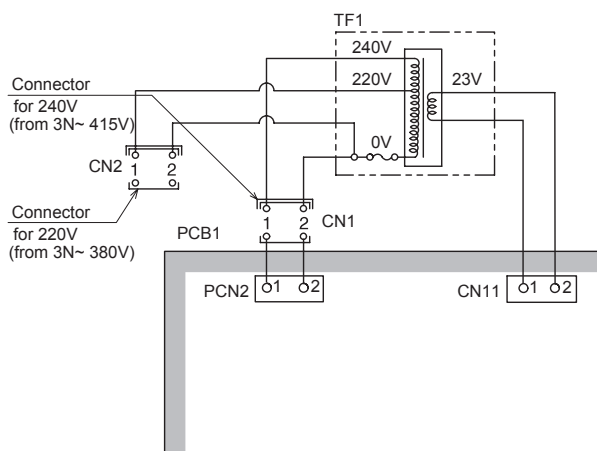
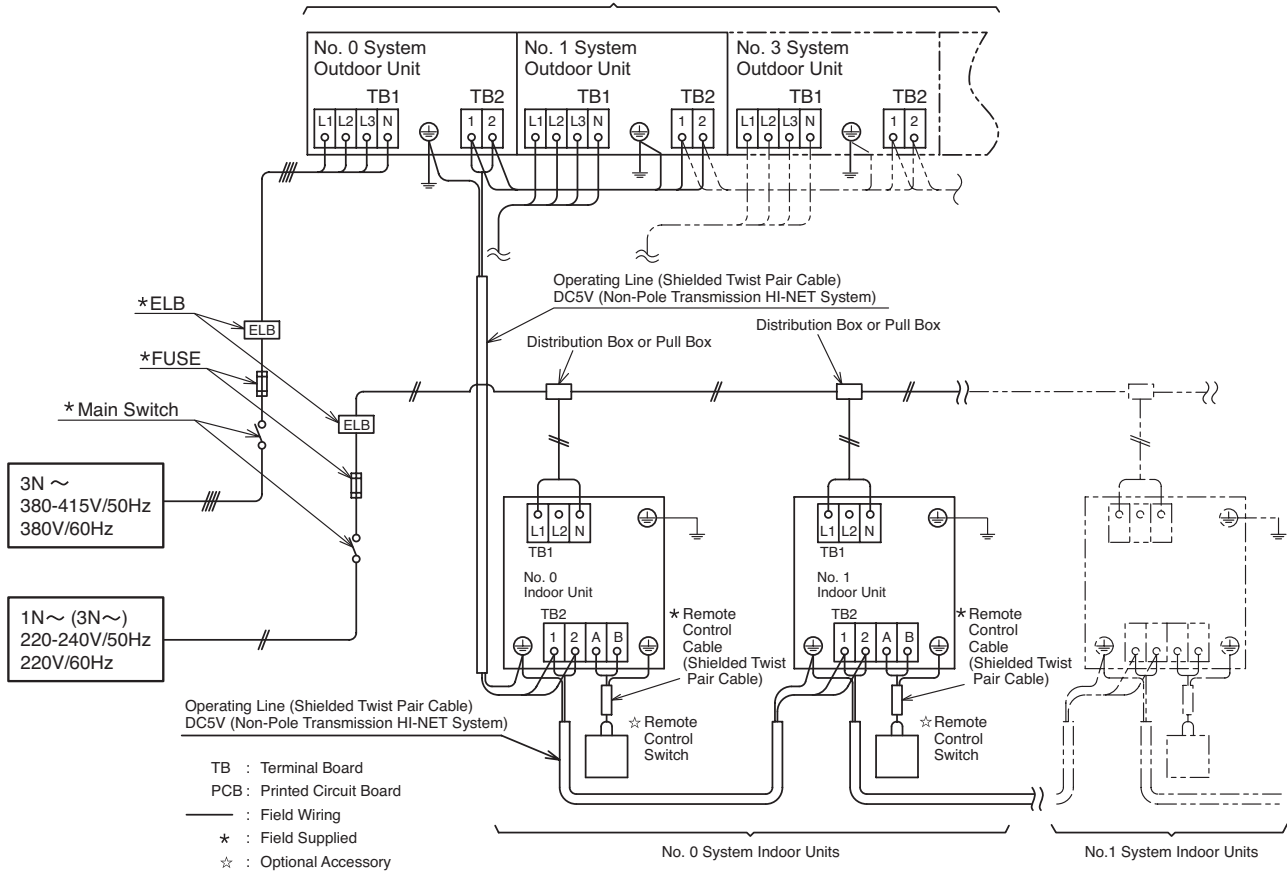
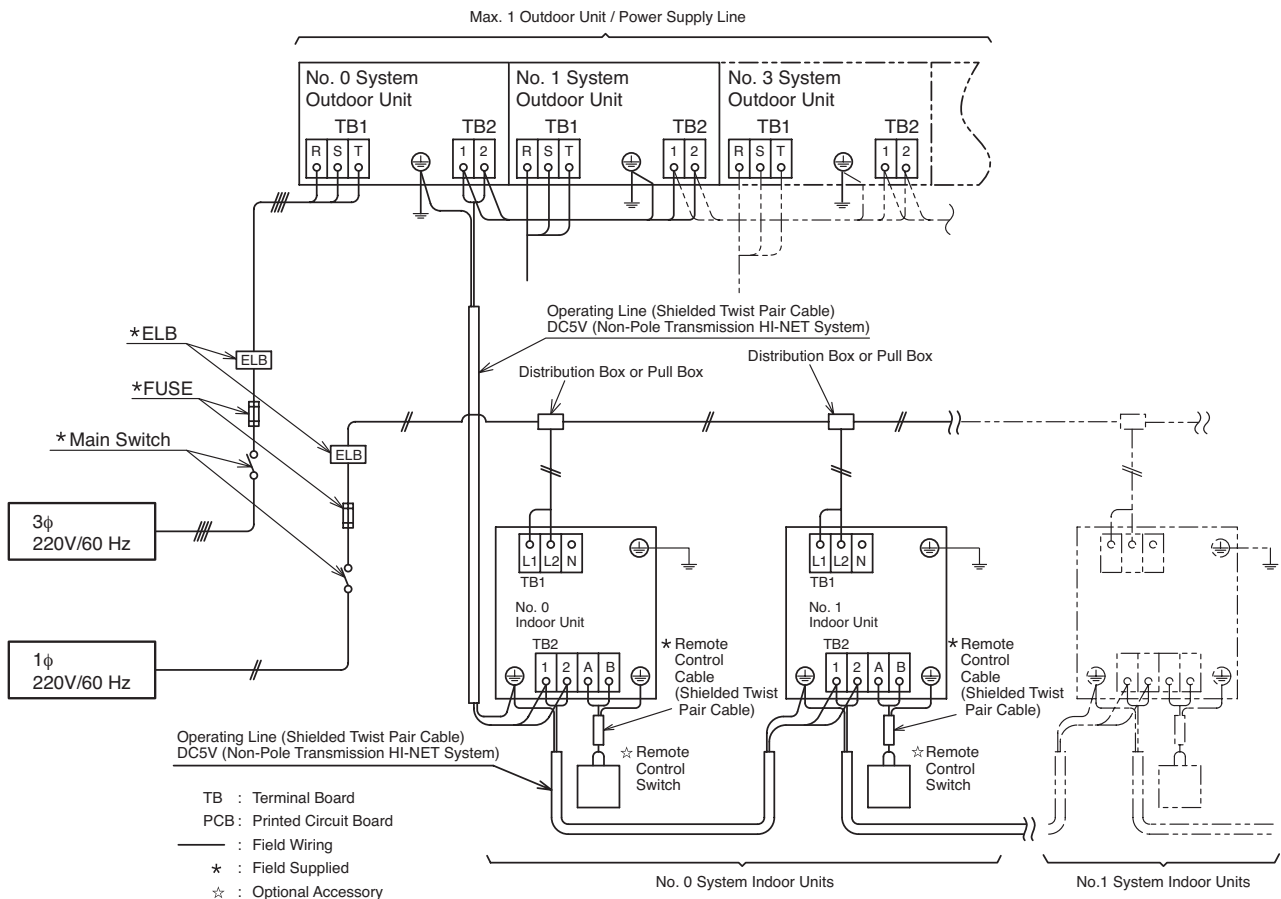
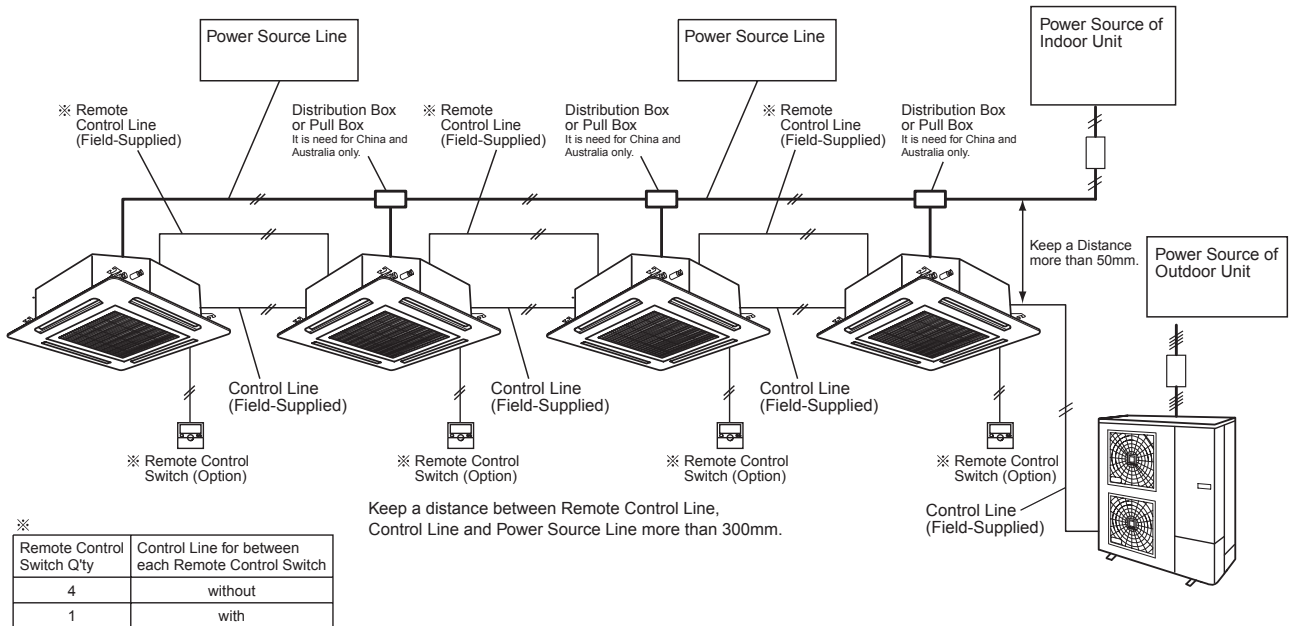

Fig. 6.1 Connector of Transformer of Outdoor Unit
Fig. 6.2 Instruction for Electrical Wiring Connection (380-415V/50Hz, 380V/60Hz)
Fig. 6.3 Instruction for Electrical Wiring Connection (220V/60Hz)
Fig. 6.4 Instruction for Electrical Wiring Connection
- (1) Connect the power supply wires to the terminal board in the electrical control box of both outdoor unit and indoor unit. And connect the earth wire to the electrical control box of outdoor unit. In addition, connect the earth wire to earth screw in the electrical control box of indoor unit. Refer to Fig. 6.2, Fig. 6.3 and Fig. 6.4.
- (2) Connect the wires between the outdoor and indoor units to terminals 1 and 2 on the terminal board. If power supply wiring is connected to 1 and 2 of terminal board (TB1), printed circuit board will be damaged.
- (3) Do not wire in front of the fixing screw of the service panel. If do, the screw can not be removed.
- (4) In case that the power source is 240V, change CN1 (connector) to CN2 of transformer in the electrical control box as shown in Fig. 6.1.
- (5) Connect the electrical wires between the indoor unit and the outdoor unit, as shown in Fig. 6.2, Fig. 6.3 and Fig. 6.4. Check to ensure that the terminal for power source wiring of each terminal board: AC220-240V between the indoor unit and the outdoor unit coincide correctly. If not, some component will be damaged.
- (6) Use twist pair cable with shielded for control between outdoor unit and indoor unit, control wiring between indoor units, wiring (1 and 2) for remote control switch of HYXC-A01H and transmission wiring (A and B) for remote control switch of HYXC-A01H.
As shown in Fig.6.2, connect the electrical wires between the indoor unit and the outdoor unit and among the indoor units. Check to ensure both power terminals and communication terminals are connected correctly. If not, some components will be damaged.